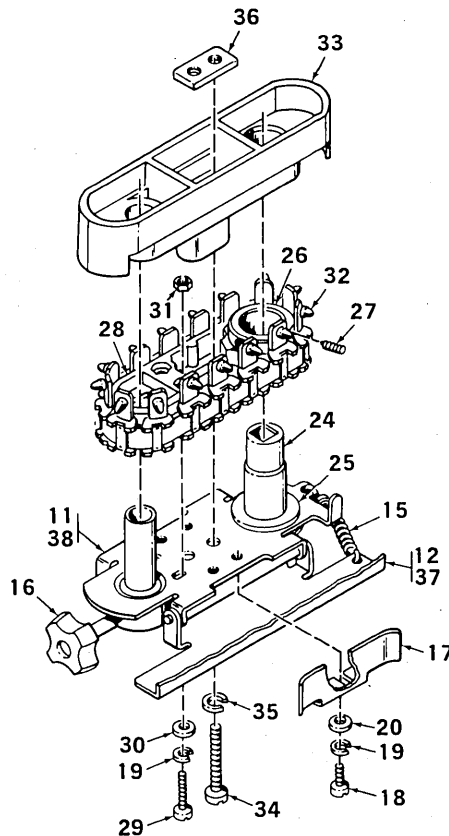

Figure 5-10. REMOVAL OF BELT (32) IDLER SLIDE (28), AND DRIVE PULLEY (26)
The following removal/replacement procedure (Fig. 5-10) applies to either a left or right pin feed unit. But where there is a part difference, key numbers will be indicated in the text so that the operation being applied will cover both units.
4. Loosen two screws, washers (18, 19, 20) holding the pin attachment guide (17) on the pin feed holder (11, 38).
- a. Open gate (12, 37) and slide pin attachment guide (17) outward so that when belt is compressed each side, the clearance between belt and guide is approximately ¼-in. (6.3 mm) (not critical).
5. Using a medium sized slotted head screwdriver, remove two screws, lockwashers, (34, 35) and plate nut (36) holding pin feed holder (11, 38) and belt guide (33) together.
6. Separate and remove belt guide (33) from remaining portion of pin feed unit. Keep sleeve (24) in position.
7. Remove two screws, lockwashers (29, 19, 30) and recessed nut (31) holding the idler slide (28) to the pin feed holder unit (11, 38). Keep sleeve (24) in position.
8. Lay unit on bench with gate (12, 37) open. The set plate (21) is facing downward, the sleeve (24) is projecting upward, (See Fig. 5-10). (Set plate is not shown).
4. Set left pin feed holder (11) flush to right side of stopper (5), and tighten lock-knob (16).
- C. Pin Attachment Guide (17) (Lift and Right) (Fig. 8-10), (Fig. 5-10)